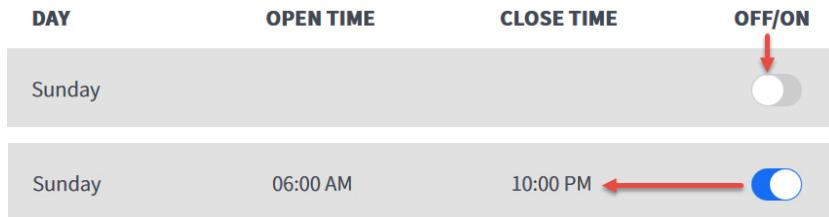

Fig. 1.13
**ON/OFF Switches:** Click on the OFF/ON switch to turn an option ON (if its current status is off) or OFF (if its current status is on). Some fields are invisible in the OFF position but become visible when turned ON (see OPEN TIME and CLOSE TIME columns in Fig. 1.13).